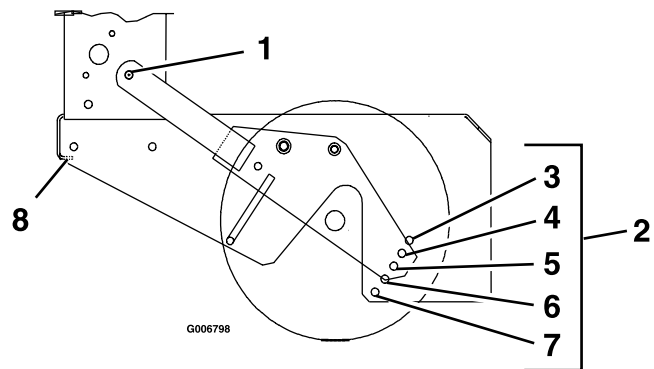
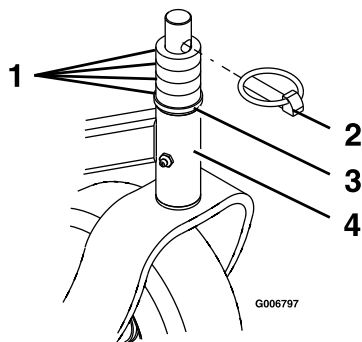

Figure 10
Figure 11
Desired cutting height range can be obtained by adjusting the rear axle and placing caster spacers above or below the caster arm (See Figure 10 and Figure 11 along with the Cutting Height Adjustment Chart). It may be necessary to readjust wheel drive and brake linkages.
5. Loosen but do not remove the two axle pivot bolts and the two axle adjustment bolts (see Figure 10).
6. Remove “quick pin” from one caster and remove caster from hub (see Figure 11.).